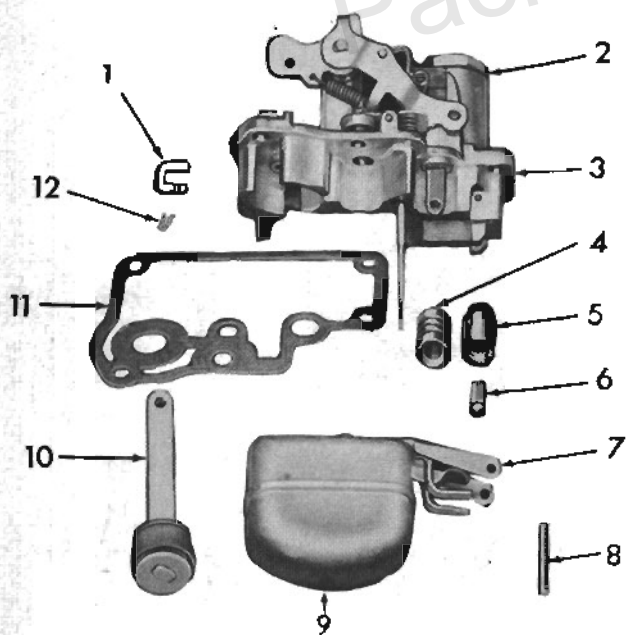

FIG. 29
Bowl Cover Assembly—To remove the bowl cover gasket (11, Fig. 29), first remove the hairpin clip (12) and the pump connector link (1); then remove the accelerating pump plunger and rod assembly (10).
To complete the disassembly of the bowl cover assembly, turn the vacuum piston (4, Fig. 29) 90° counterclockwise and unhook it from the vacuum piston link (3). Remove the vacuum piston link (5,
Removal of the float lever pin (8, Fig. 29) will permit the removal of the float and lever assembly (9) and the float needle (6). Then, using Jet Wrench J-816-6, remove the float needle seat and gasket (5).
Bowl Cover Assembly—Before assembling the float bowl cover assembly, lubricate the pump operating countershaft with No. 3 graphite grease. Install the fuel bowl strainer, new gasket, and nut. Using Jet Wrench J-816-6, install the float needle seat (5, Fig. 29) with a new gasket. Then install the float needle